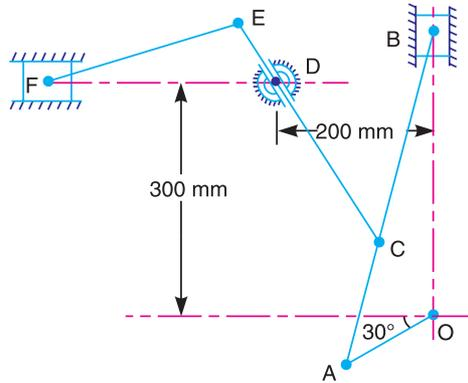

Fig. 7.37
7. Fig. 7.37 shows a mechanism in which the crank  $OA$ , 100 mm long rotates clockwise about  $O$  at 130 r.p.m. The connecting rod  $AB$  is 400 mm long. The rod  $CE$ , 350 mm long, is attached to  $AB$  at  $C$ , 150 mm from  $A$ . This rod slides in a slot in a trunnion at  $D$ . The end  $E$  is connected by a link  $EF$ , 300 mm long, to the horizontally moving slider  $F$ .